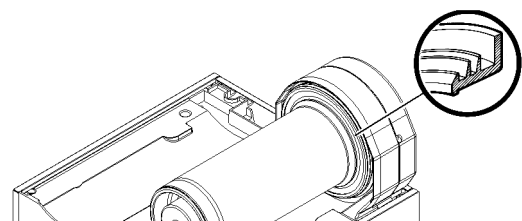

figure 13
- Fit bowl gasket around its seat. Note: the largest brim of gasket must face against the rear wall (see figure 13).